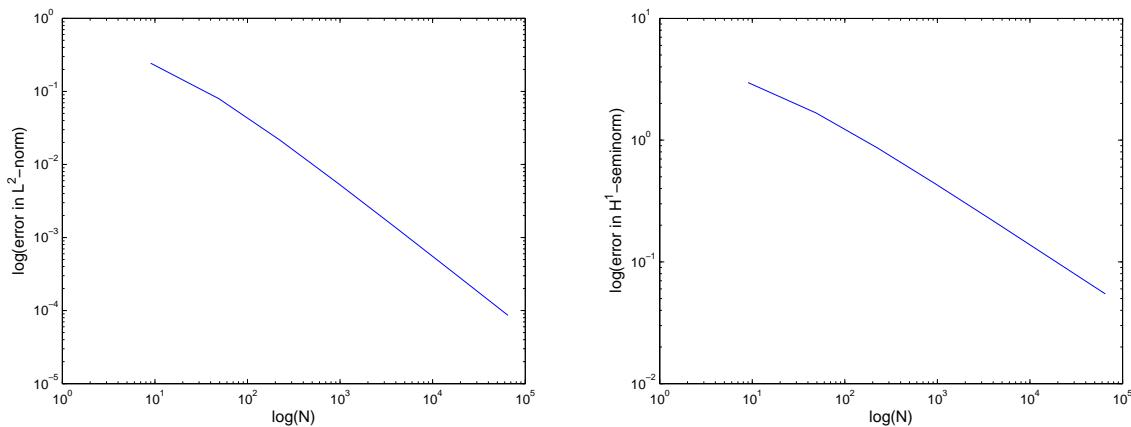

Figure 3.3: Convergence plots for subproblem (3.1n).
**Solution:** See Listing 3.12 for the code and Fig.3.3 for the convergence plots. To estimate the convergence rates, we neglect the error for the first mesh, because from the plots we can see that the error behavior for the first mesh is in the preasymptotic regime. Doing so, the convergence rates that we get are 0.9547 for the  $L^2$ -norm and 0.4783 for the  $H^1$ -seminorm. These rates are with respect to the number of degrees of freedom; they correspond to rates of respectively 1.9 and 0.96 with respect to the meshwidth  $h$ .